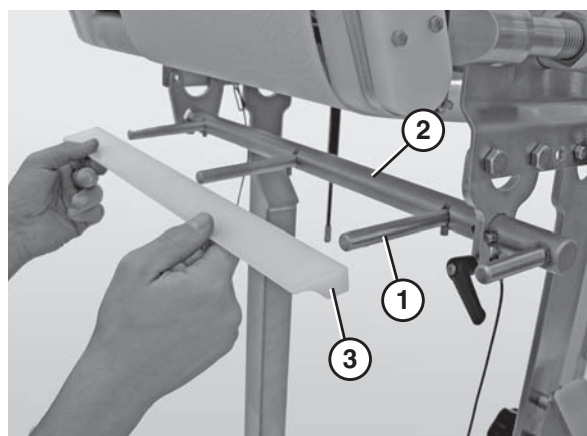

Figure 33
4. Attach the scraper bar holders (**Figure 33, item 1**) to the scraper shaft (**Figure 33, item 2**).
5. Attach the UWHM scraper (**Figure 33, item 3**) to the scraper bar holders (**Figure 33, item 1**).